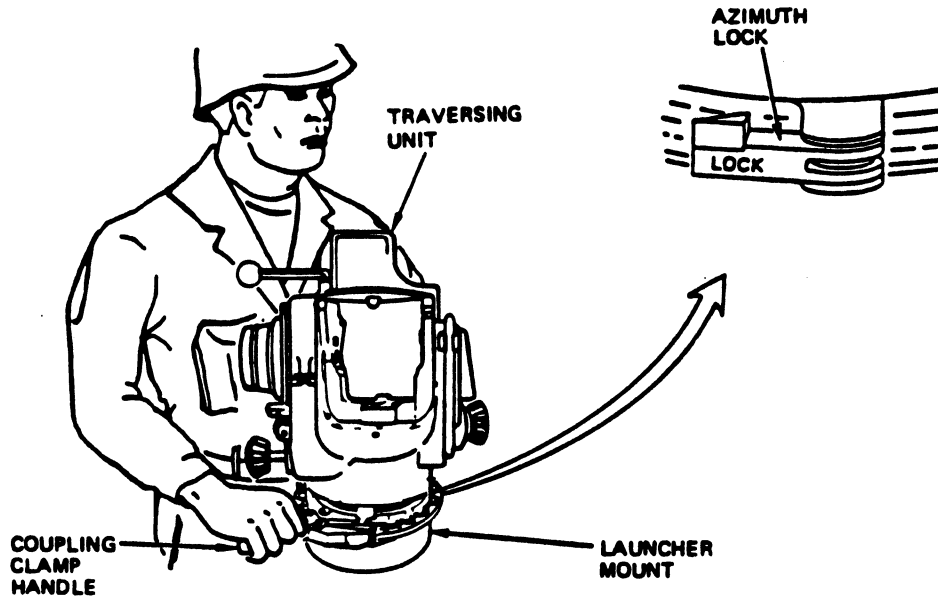

Fig 2-23. Installing traversing unit--continued.
Step 2. Fasten the traversing unit to the launcher mount by closing the coupling clamp locking handle. Turn the traversing unit from side to side until it locks in place (fig 2-23).